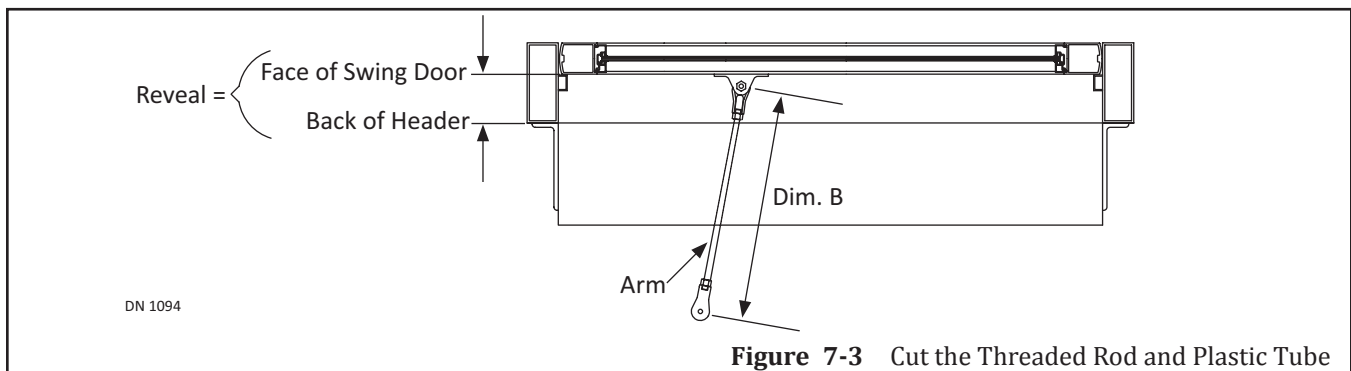

Figure 7-3 Cut the Threaded Rod and Plastic Tube
3. Measure the Threaded Rod between the center of each Eye, located on each Eye, Located at each end of the Rod. Please see Dim B in Figure 7-3.